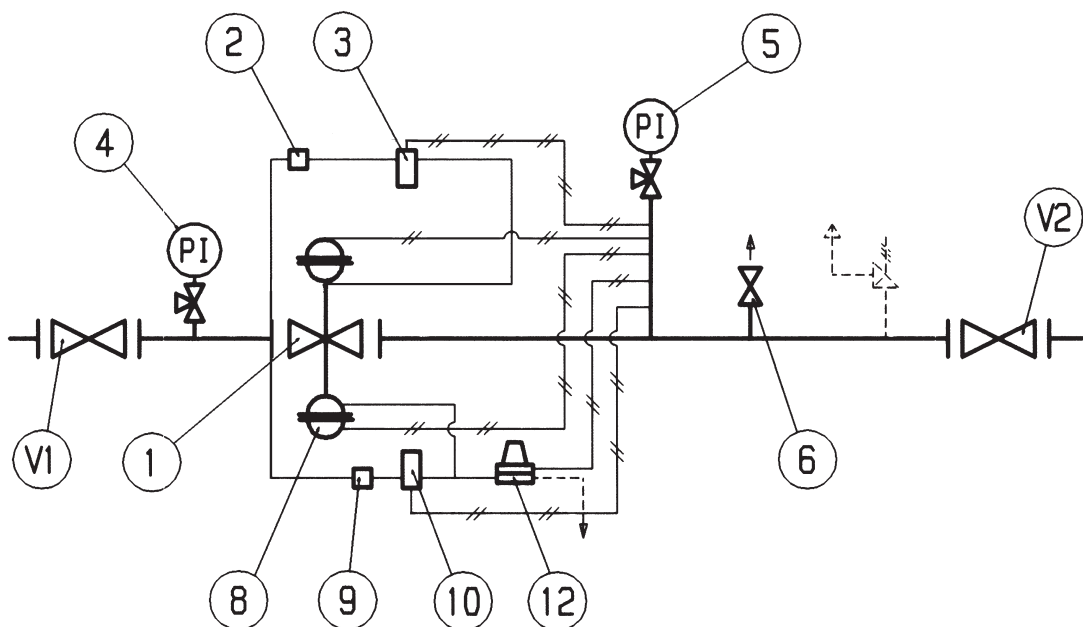

Fig. 19
5.5 COMMISSIONING THE REGULATOR WITH INCORPORATED PM/182 MONITOR AND ACCELERATING VALVE (FIG. 19)